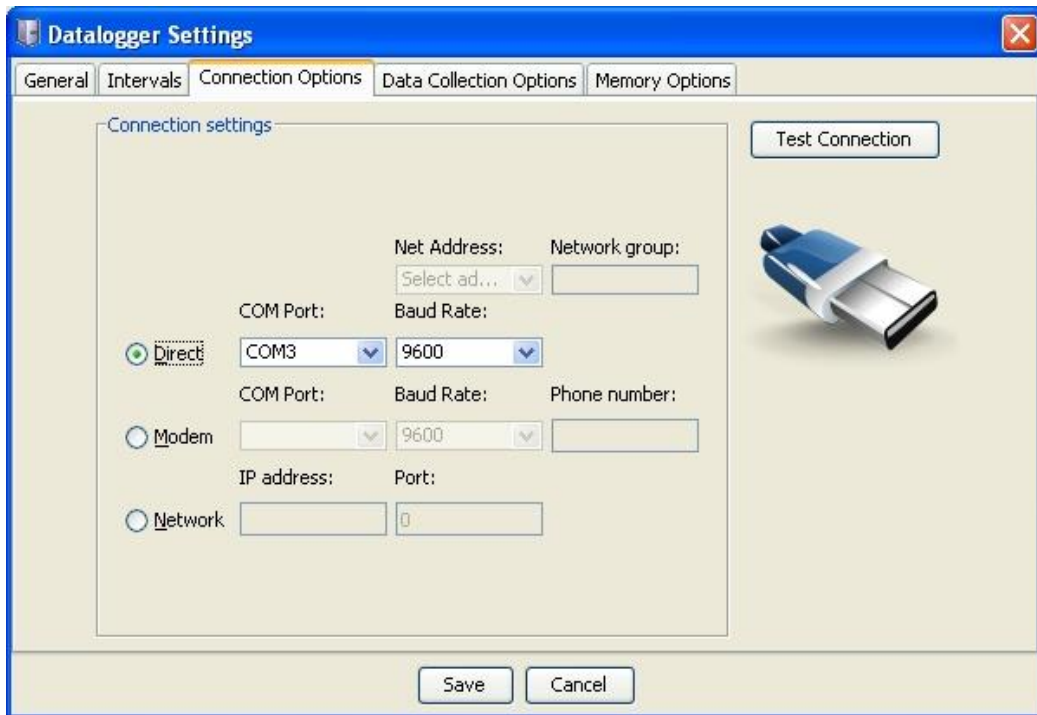

Figure 20 - Connection Options
4. Click on the “Connection Options” tab to display the settings required to establish a datalogger connection (see Figure 20).